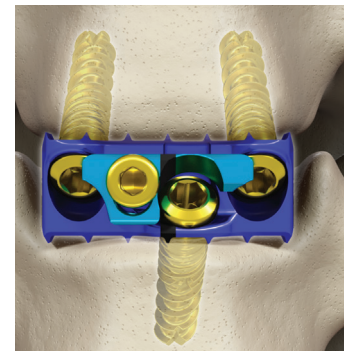

Figure 36
- Turn the driver clockwise. As the screw tightens, the teal locking cap will slide over the screw heads. Turn the torque limiting handle until an audible click is heard when the locking mechanism is tightened to 4 in-lb. The locking mechanism and torque limiting handle will provide visual, audible, and tactile confirmation that the locking mechanism is fully secured and the screw heads are partially covered (Figure 36).